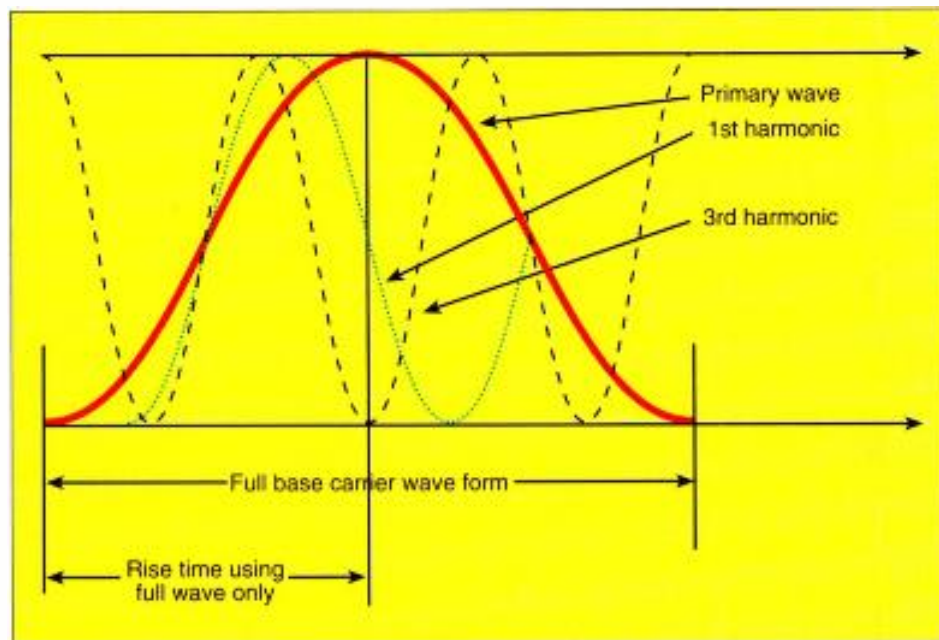

Figure 1. Using harmonics to square a sine wave results in faster signal rise time.
Figure 1. The ATTC digital on-channel repeater demonstration system consists of the primary transmitter (WUSA-DT) located in Washington, D.C., the DOCR site located at Neersville Peak, and the DTV test vehicle with a reference receiver located in Charles Town, WV. Blue Ridge Mountain blocks Charles Town from directly receiving a strong primary signal. The DOCR receives and retransmits the DTV signal on the same channel (34) as the primary signal.
The ATTC implemented a successful demonstration of the DOCR in the Washington, D.C. area. The demonstration system, shown in Figure 1, consisted of a primary transmitter, the repeater and a truck-mounted DTV reference receiver. The primary transmitter on UHF channel 34 (590-596MHz) was initially provided by WETA-DT, a PBS station operating with an experimental license, and later by WUSA-DT, a Gannett Broadcasting station. WUSA-DT transmits its DTV signal at an ERP of 636kW using an omnidirectional antenna. The final field tests were conducted using WUSA-DT. The repeater was located at Neersville Peak on the Blue Ridge Mountain near Harpers Ferry, WV, approximately 42 miles from the primary transmitter. The target area was the community of Charles Town, WV, which was effectively blocked from receiving WUSA-DT by Blue Ridge Mountain.
of wave propagation is that the odd harmonic of a wave can be used to square the wave (see Figure 1). The reference to a third harmonic is simply a description of the extent of squaring specified. The impact of this on the required bandwidth is that now the harmonic needs to be discernable, making the bandwidth of interest just over 2GHz.
Figure 1. Using networked digital systems, digital image information can be acquired, manipulated and stored in a variety of formats (compressed or uncompressed) on either tape or disk.